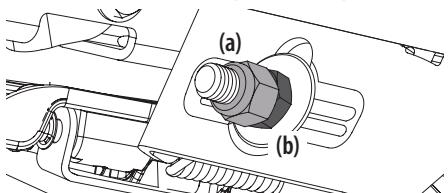

Figure 40
- To raise the front of the deck, remove the end cap, loosen the outer jam nut (a) then tighten (thread inward) the inner nut (b) against the front hanger bracket. See Figure 40. When proper adjustment is achieved, re-tighten the outer jam nut (a) to 57 ft-lbs (77 N-m) and replace the end cap.
- To lower the front of the deck, remove the end cap, loosen the outer jam nut (a) then loosen (thread outward) the inner nut (b), away from the front hanger bracket. See Figure 40. When proper adjustment is achieved, re-tighten the outer jam nut (a) to 57 ft-lbs (77 N-m) and replace the end cap.